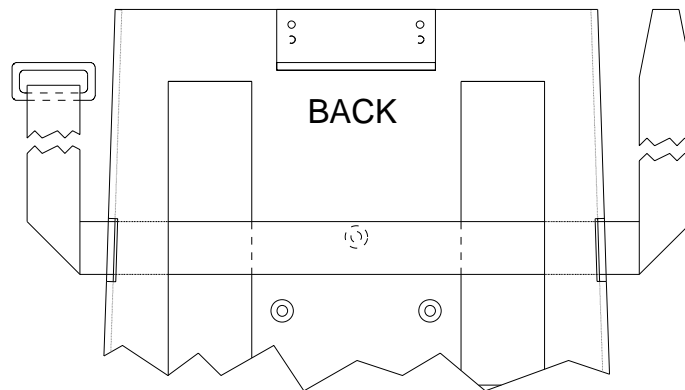

Figure 1, Monitor Base Plate
12. Set the monitor against the **back** bracket on the base plate as shown in figure 1.